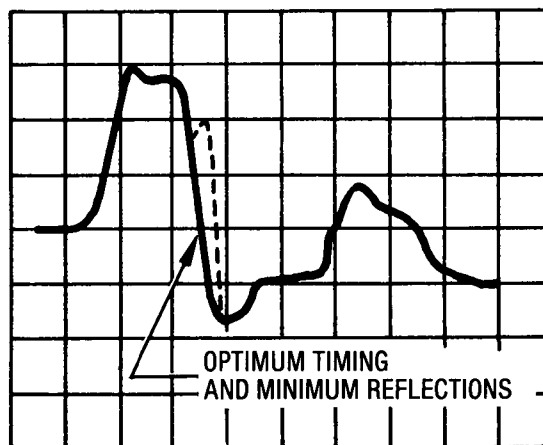

Figure 5-46. Series Pulse Width Waveform
Shunt Adapter	Fabricated Locally (see Figure 5-46)
17. Adjust SPW (SER P A1A4R25) to obtain the waveform shown in Figure 5-46.
21. Adjust SPW (SER P A5A4R25) to obtain the waveform shown in Figure 5-46.